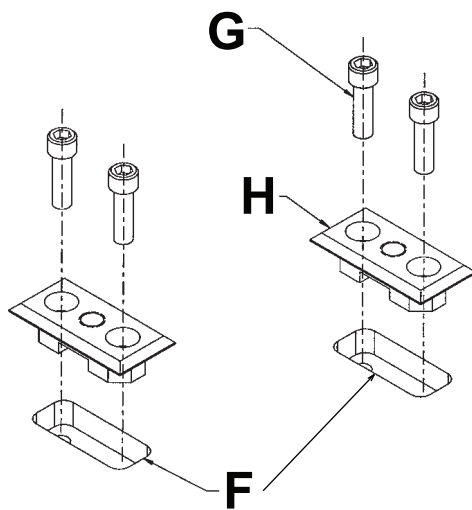

Figure 3 – Cut recessed openings over locating holes
3. Cut 1 in. x 2-1/2" x 9/16" deep recessed openings (F) into the floor centered over the locating holes (Figure 3).